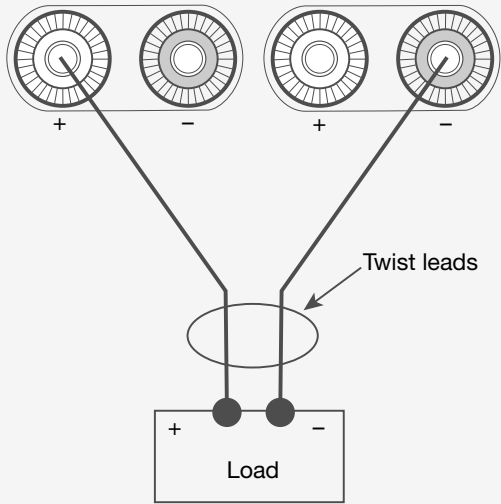

Figure 8. Wire connections enable higher voltage
Step 1. Connect wires as they appear in Figure 8